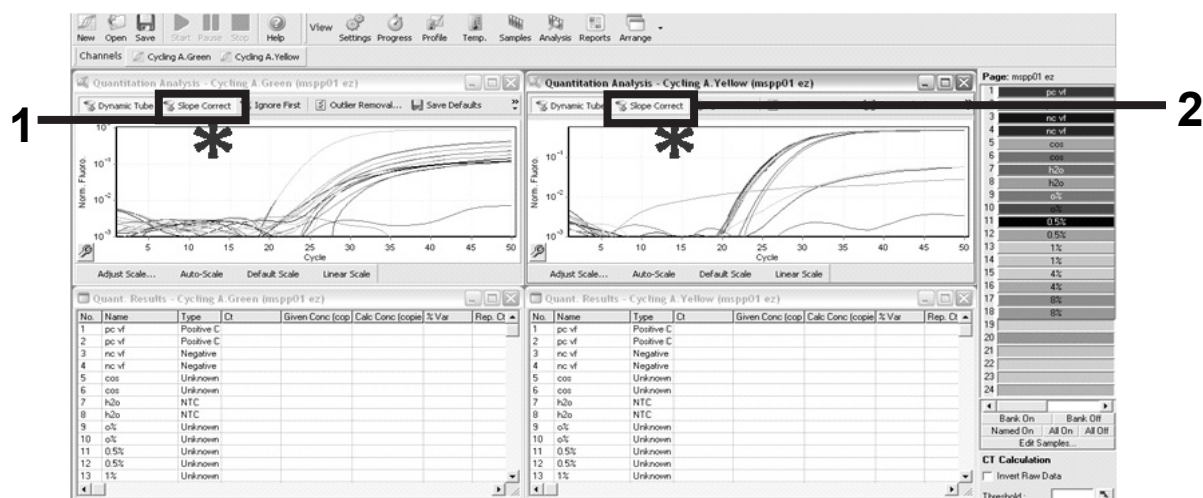

Figure 10. Setting "Slope Correct".
19. A new window appears (Figure 10). Click "Slope Correct" in both panels, as shown in Figure 10.